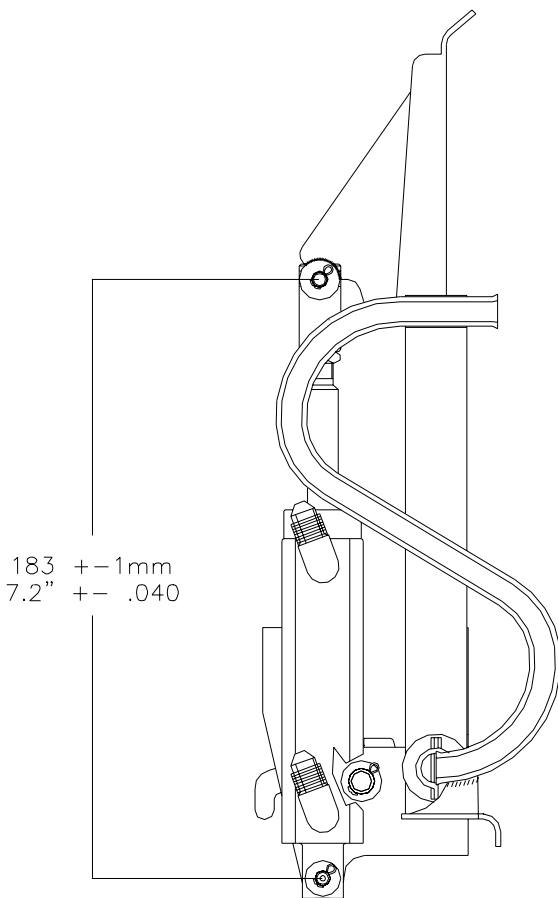

Figure 4
- 10.18** Install the extended clevis P/N 20-2700-20-01 on the master cylinders and reconnect to the brake pedal. Adjust clevis for 183 +/- 1mm mounting hole center to center dimension to maintain proper pedal geometry as shown in figure 4.